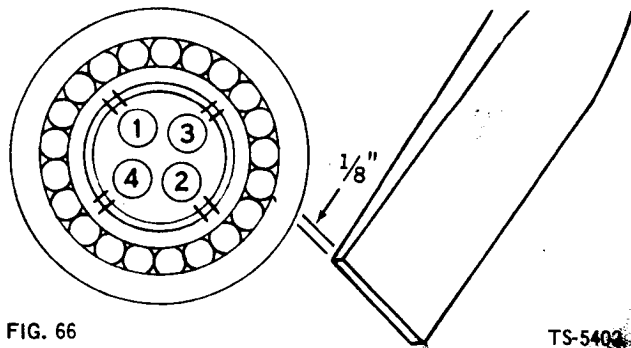

FIG. 66
1. Press inner pinion bearings onto end of pinion shaft. Stake inner pinion bearing to pinion shaft in four places (Fig. 65). Use square end staking tool and stake in sequence shown in Fig. 66.